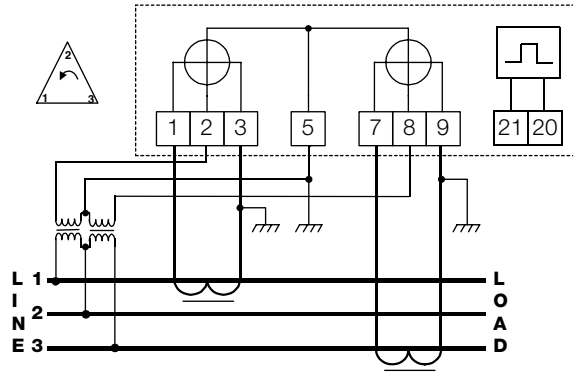
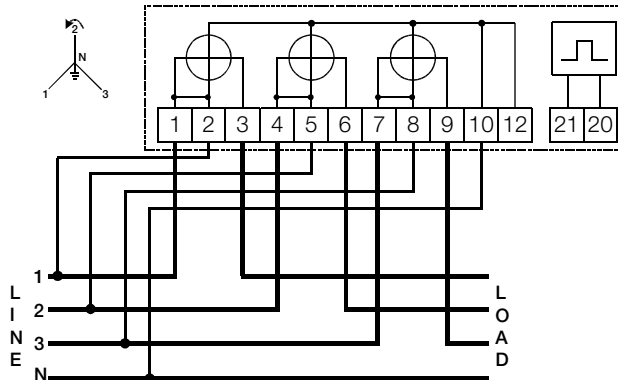

Figure 1. Wiring for 3 phase, 3 wire, 2 element with instrument transformers, sequential
Figure 7. Wiring for 3 phase, 4 wire, 3 element, direct connect sequential
- 3 Wire meter with 5.0 mm (maximum) diameter wire. The voltage and current connections are equipped with combi-screws enabling both "slot" and Philips screwdrivers to be used. If wire diameter is larger than 5.0 mm, approved adapters must be used. (See Figure 1 through Figure 7 for installation wiring.)